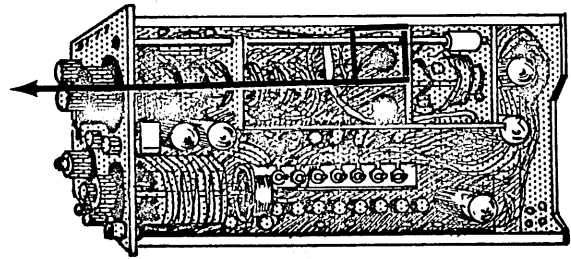

Figure 4-15
5. Set the TIME/DIV to 1  $\mu$ sec and apply 1  $\mu$ sec markers from the 180. Adjust R79A, See Figure 4-15, for 1 marker/cm.